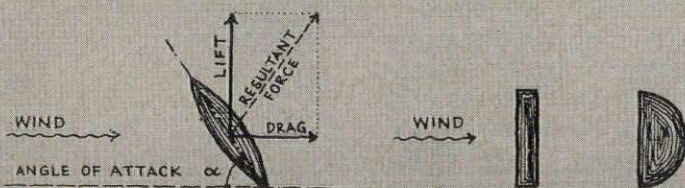

Fig. 12. LIFT AND DRAG: DYNAMICALLY UNSTABLE SHAPES
2. *Dynamically Unstable Shapes.* The force of the wind on a prismatic shape is usually not in line with the direction of the wind. In analyzing its effect, the force is divided into two components: drag and lift, parallel and perpendicular to the direction of the wind, as shown in Fig. 12. The magnitude of these will vary with changes in the angle of attack and with the section. Thus a cylinder will have no lift, while an oblong
shape will. Some shapes are found to be unstable; this means that if the wind blows at certain angles, the lift force causes them to wobble. A rectangular section is unstable if it is held more or less across the wind as in Fig. 12, a half-cylinder even more so. This effect can be felt by dragging a flat board through water.